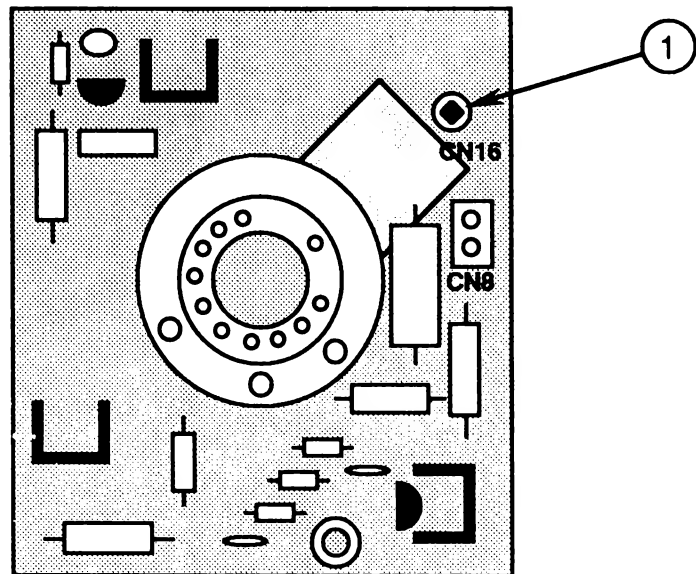

FIGURE 17
13. Disconnect the single-wire black connector CN16 (Figure 17, #1) from the CRT board.